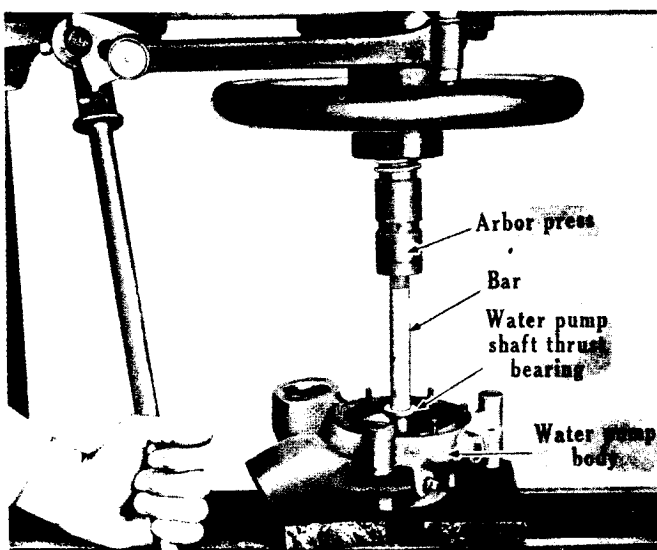

Fig. 23 - Pressing Water Pump Shaft Thrust Bearing Into Water Pump Shaft Sleeve.
3. Press a new pump shaft thrust bearing into the shaft sleeve if the old one is not serviceable (Fig. 23).